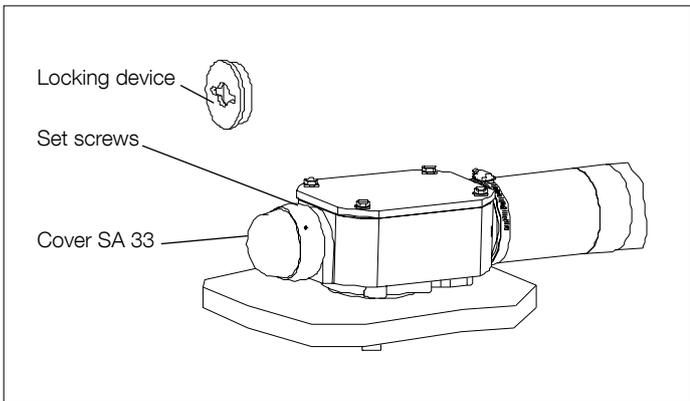

Fig. 43. Locking device and cover, multiple-unit tap-changer.
5. Remove the locking device on the bevel gear of the diverter switch housing by loosening the two set screws; see Fig. 43.
8. Mount the protective cover SA33. Tighten the two set screws, (taken from the locking device); see Fig. 43.